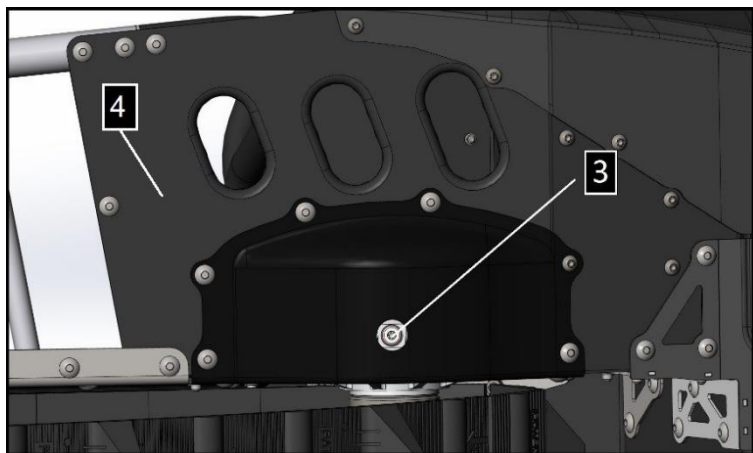

Fig.28
2. Place the convenient container under the snowmobile and in the drain area of the right pedal area (pose 3, Figure 28) (pose 4, Figure 28).